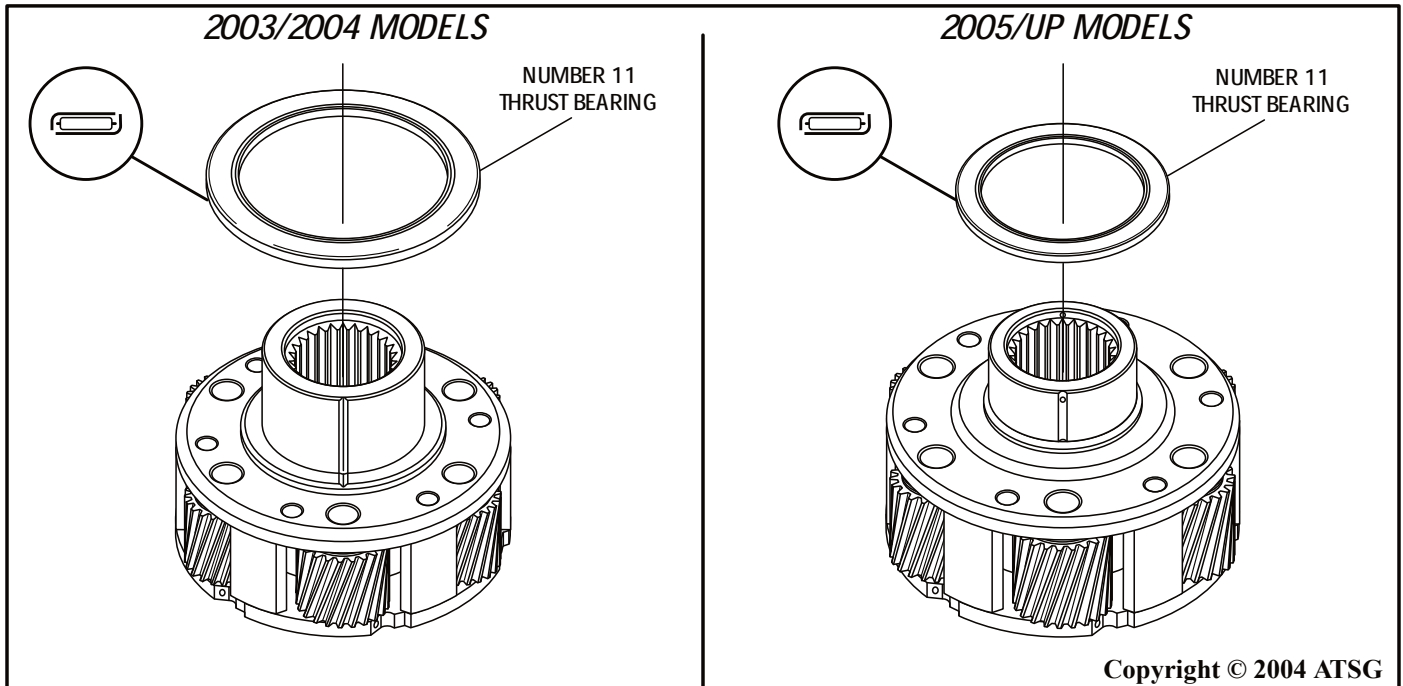

Figure 141
8. Install the proper number 11 thrust bearing in the direction shown in Figure 141, and retain with liberal amount of Trans-Jel®.